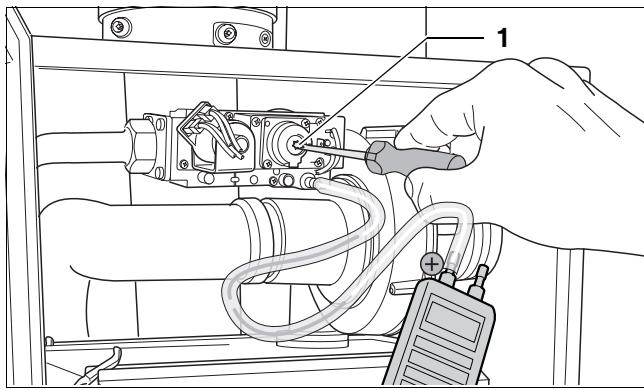

fig. 19 Setting the gas/air ratio
- If the gas/air ratio is not correct it can be adjusted using the adjustment screw (fig. 19, pos. 1). The adjustment screw is located behind the cover screw.